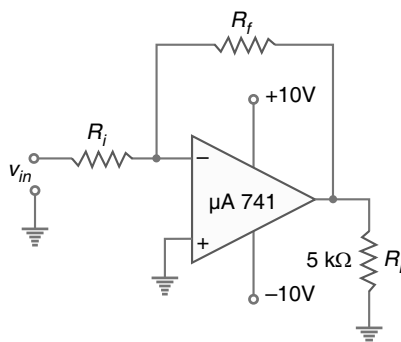

Fig. 23.44
**Example 23.23.** Determine the maximum operating frequency for the circuit shown in Fig. 23.44. The slew rate is  $0.5 V/\mu s$ .
**Example 23.24.** The amplifier in Fig. 23.44 is being used to amplify an input signal to a peak output voltage of  $100 \text{ mV}$ . What is the maximum operating frequency of the amplifier?